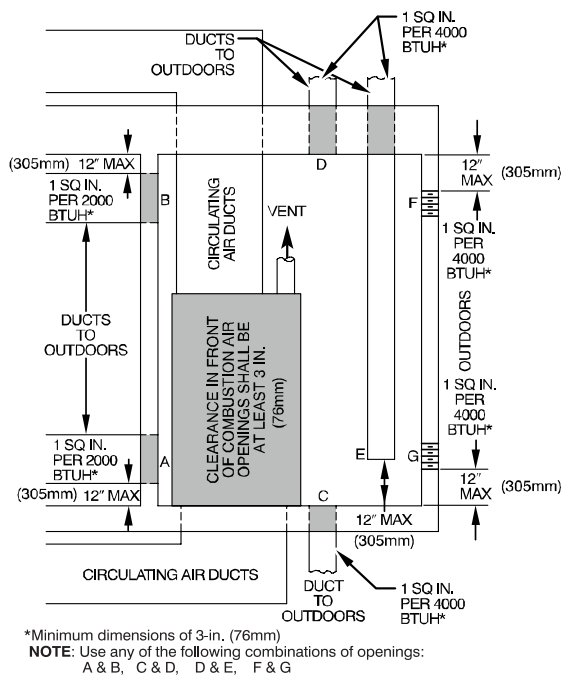

Fig. 6 – Air for Combustion, Ventilation, and Dilution for Outdoors
2. Fig. 6 illustrates how to provide TWO OUTDOOR OPENINGS, one inlet and one outlet combustion and ventilation air opening, to the outdoors.
- b. Size openings and ducts per Fig. 6 and Table 4.
- c. TWO HORIZONTAL DUCTS require 1 sq. in. (645 sq. mm) of free area per 2,000 BTUh (1,100 mm²/kW) of combined input for all gas appliances in the space per Fig. 6 and Table 4.
- d. TWO OPENINGS OR VERTICAL DUCTS require 1 sq. in. (645 sq. mm) of free area per 4,000 BTUh (550 mm²/kW) for combined input of all gas appliances in the space per Fig. 6 and Table 4.
- a. 1 sq. in. (645 sq. mm) of free area per 3,000 BTUh (734 mm²/kW) for combined input of all gas appliances in the space per Fig. 6 and Table 4.